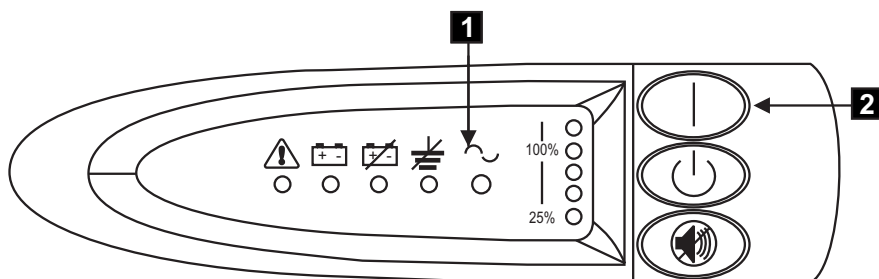

Figure 21. Power switch and indicators on the uninterruptible power supply 5125
10. All front panel indicators of the UPS 5125 flash for a short time while the UPS 5125 runs a self-test. When the test is complete, the mode indicator **1** flashes to show that the UPS 5125 is in standby mode. See Figure 21.
Press and hold the UPS 5125 on button **2** until you hear the UPS 5125 beep (approximately one second). The mode indicator stops flashing and the load level indicators display the percentage of load that is being supplied by the UPS 5125. The UPS 5125 is now in normal mode, and is charging its battery. See Figure 21.